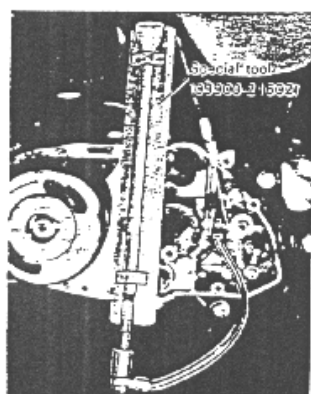

Fig. 2-67
Use special tool (A) (09900-21602), Fig. 2-67, to check the pump for capacity by measuring the amount of oil the pump draws during the specified interval. The checking procedure follows:
1. Have the tool (A) filled with Suzuki CCI oil, and connect it to the suction side of the pump.
4. Holding engine speed at the same 2,000 rpm, move the lever down to the middle position and let the pump draw for two minutes. For this operation, the reading taken on the device (A) should be from (English Market 0.35, _____) to (English Market 0.43, _____).